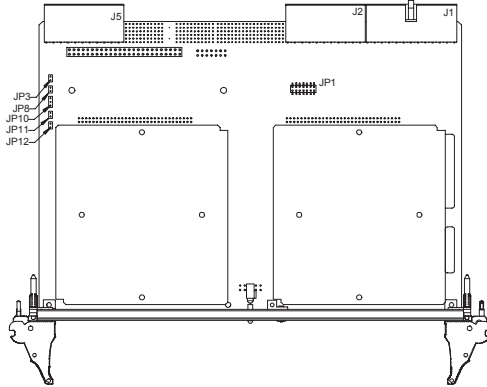
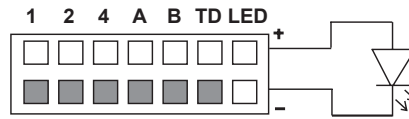

Figure 1 SC6F/H Jumper Locations
Figure 2 JP1
1. Set the SCSI ID before installing the SC6F/H in the cPCI chassis. JP1 is a set of option jumpers and is used to configure the internal SCSI ID, options, and to power an external LED. Refer to Figure 1 for the location of JP1 and Table 2 for valid SCSI ID numbers and jumper combinations. Figure 2 shows JP1 pins.
SCSI disconnects are controlled by the SCSI host adapter and are enabled by default. Without using the host adapter controls, disconnects can be disabled by installing a jumper on pin labeled “B” on JP1 in Figure 2.
The last jumper on the right of JP1 on Figure 2 is used to install a remote-mounted LED without external power or resistors. The output is active low and includes a 120 Ohm current-limiting resistor.
The JP3 jumper is used to set Single Ended or Low Voltage Differential. LVD mode is enabled by default. To enable SE mode and disable LVD mode, place a jumper on JP3. Refer to Figure 1 for the location of JP3.
The JP8 jumper is used only for the external SCSI bus through RJ5 on the SC6RTB. LVD external rear I/O termination is enabled by default and can be disabled by placing a jumper on JP8. Refer to Figure 1 for the location of JP8.
The JP10 jumper is only for the external SCSI bus through RJ5. To use external power from the SCSI cable, place a jumper on JP10 pins “1” and “2” (default). To use local 3.3V for external termination power, place a jumper on JP10 pins “2” and “3”. JP10 is shown in Figure 1. If no jumper is used on JP8, one must be put on JP10 pins “1” and “2” or “2” and “3”.
The JP11 jumper is used for the external SCSI bus through RJ5 on the SC6RTB. By placing a jumper on JP11, local power connects through a 1.5A resettable fuse to termination power through J5. Refer to Figure 1 for the location of JP11. This jumper is on by default.